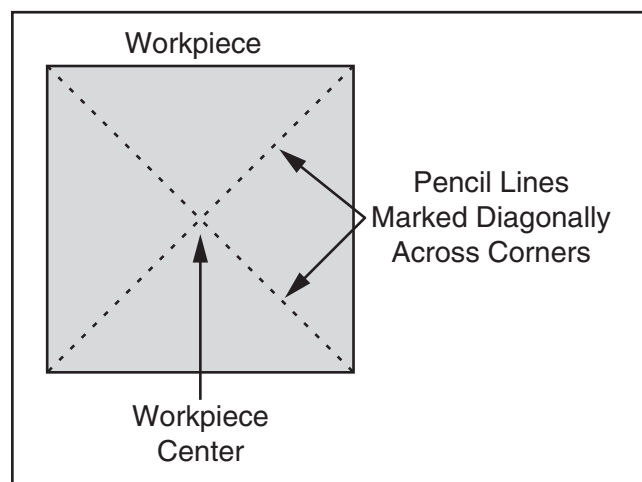

Figure 32. Workpiece marked diagonally from corner to corner to determine the center.
1. Find the center point of both ends of your workpiece by drawing diagonal lines from corner to corner across the end of the workpiece (See **Figure 32**).